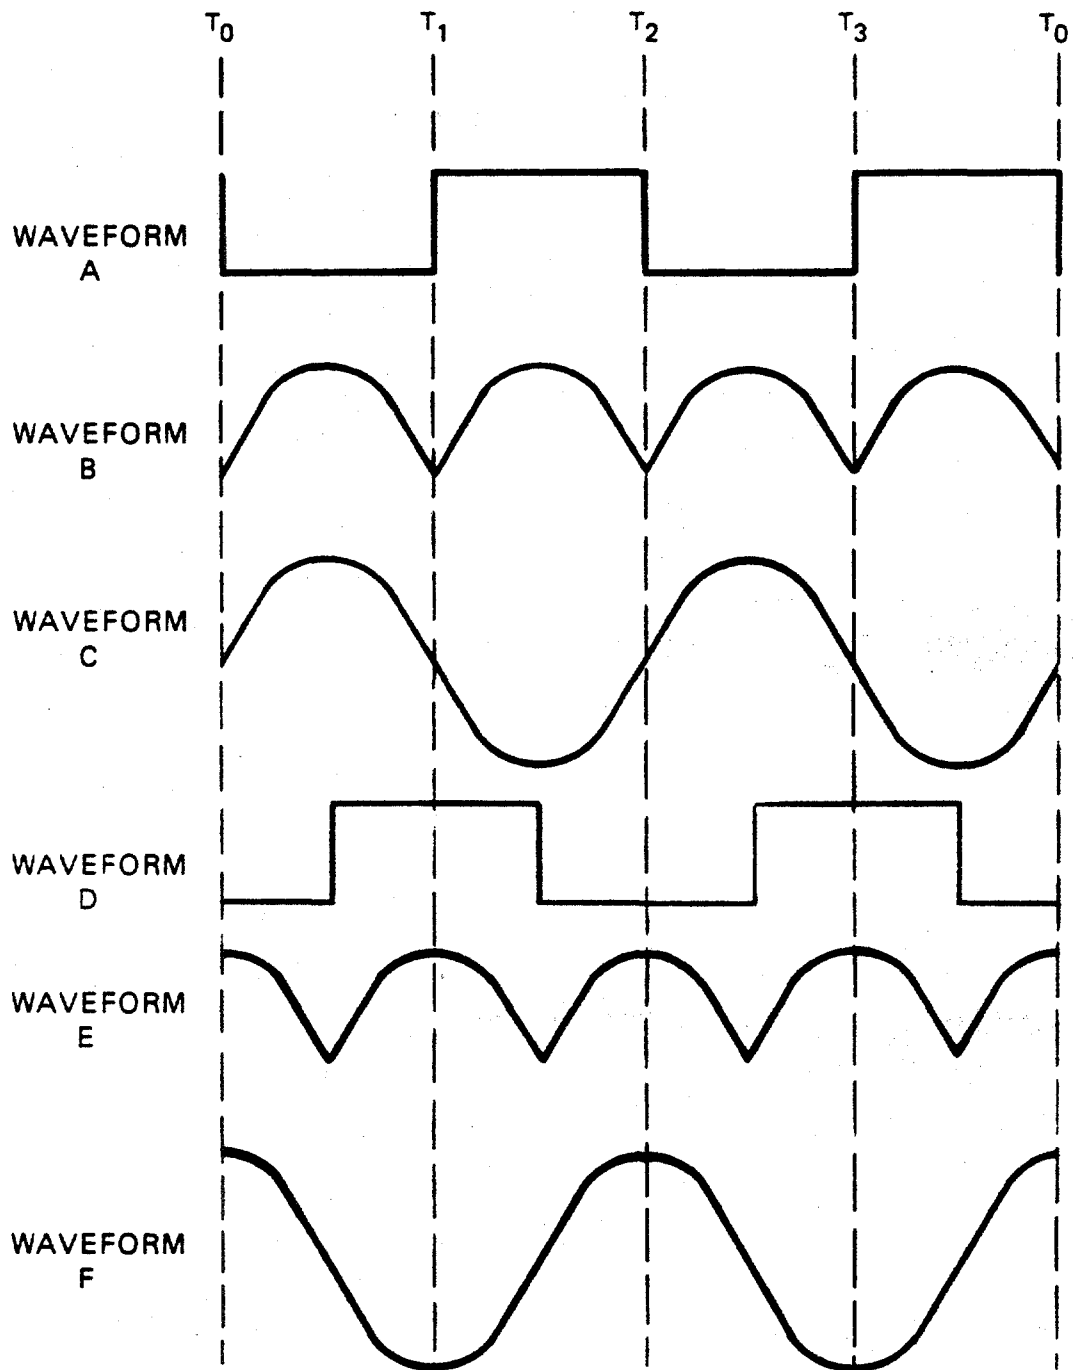

Figure 3-2. Timing Diagram
3.1.8 The current waveform out of DAC U14 is converted to a voltage waveform by amplifier A1B. This waveform will be a series of half wave, positive going signals. See timing diagram Figure 3-2 waveform B. This series of half wave signals is fed to amplifier A1A.
3.1.9 Amplifier A1A is an invert/noninvert amplifier with a gain of one. When enhancement mode FET Q3 has a positive on the gate, the source to drain resistance is very low. Thus if Q3 is on, pin 3 is shorted to common and the circuit is a normal inverting operational amplifier. Conversely, when Q3 is off, A1A will act as a non-inverting operational amplifier. Thus when waveform A of timing diagram (Figure 3-2) is applied to Q3 in synchronization with the analog signal of waveform B, the result will be the sine wave of waveform C on the output. This is filtered by the two pole filter of A2A and becomes the A phase output.